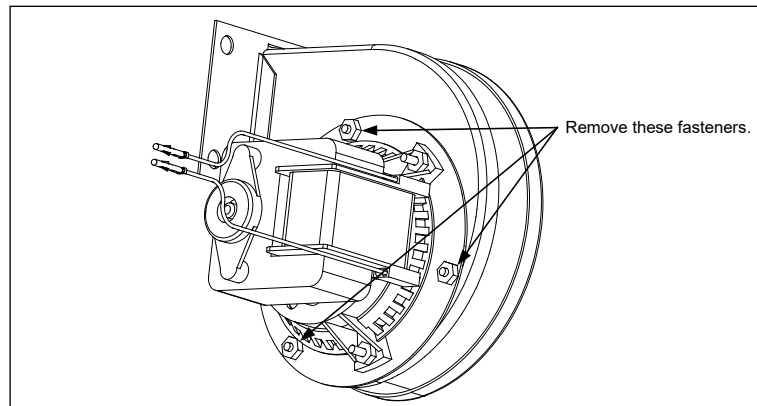

Figure 5
4. Remove the three fasteners that secure the blower motor assembly to the blower housing, and separate the two components. (See Figure 5)